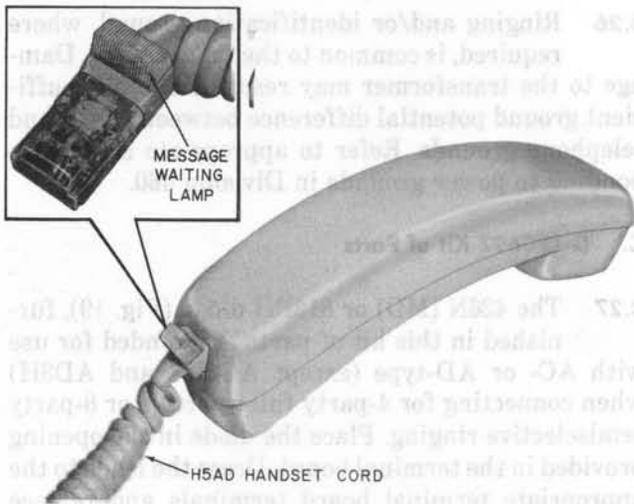

Fig. 18—H5AD Handset Cord (Message Waiting Lamp)
- 3.22 If message waiting lamp feature is required, an H5AD handset cord must be used (Fig. 18) the lamp equipped end of the cord plugs into 220A or 2220B hand telephone set when used with AC1, AC1P, AD1, or AD2 telephone bases only.